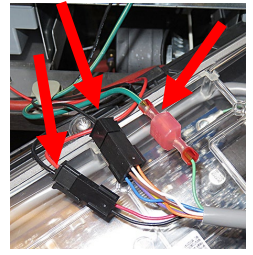

Figure 16
- Disconnect the ground cable, the locator cable, the speaker cable and the USB cable from the far-left controller (if applicable) (see Figure 16). Tuck the single wire locator cable out of the way, as it is NOT used with the new controller.